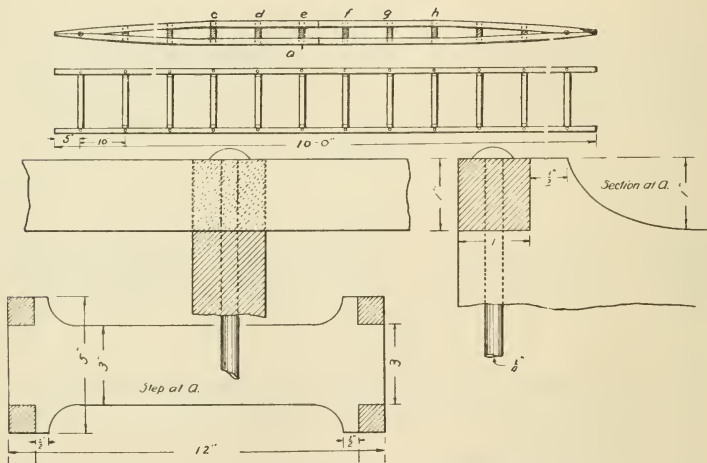

FIG. 76.—WORKING DRAWINGS OF TRUSSED LADDER.
2. Squaring up steps and cutting notches. — The steps are all squared up to the same size and planed smooth. After the ladder is assembled temporarily, some of the steps near the end will be found extending out beyond the strips. Cut six steps as shown in Fig. 76, with the